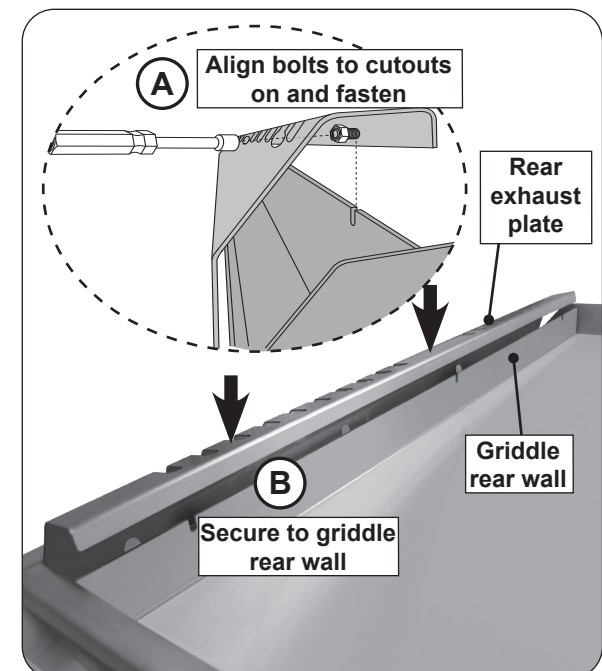

Fig. 31-4 Install rear exhaust plate
1. Take the rear exhaust plate and align the three bolts (with pre-installed nuts) to the three cutouts on the griddle rear wall (see Fig. 31-4, A).
2. Fasten the nuts using a nut driver. Insert nut driver through the rear vent slots to tighten (see Fig. 31-4, A & B).